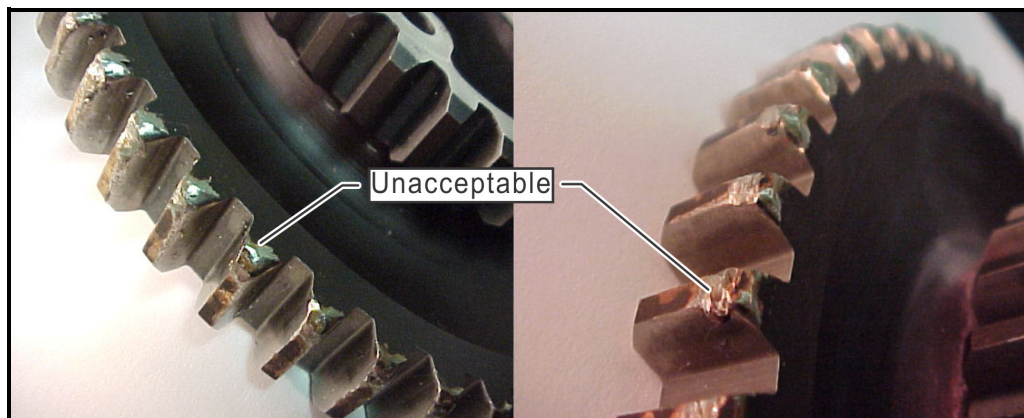

Figure 6. Unacceptable Wear Criteria
5. Examine the wear criteria on the larger of the two gears to determine either acceptable wear (Figure 5) or unacceptable wear (Figure 6) to the crankshaft cluster gear (see steps 5., a. and b.). After completely inspecting the visible gear tooth surfaces for wear, slowly rotate the engine crankshaft to examine the next section of the gear until all gear tooth surfaces have been completely inspected and the wear patterns have been reviewed against the following criteria:
- a. **Acceptable Wear** - Figure 5 depicts normal wear patterns for the crankshaft cluster gear. This wear pattern is normal and should not be confused with damaged gear teeth as shown in Figure 6.
- b. **Unacceptable Wear** - Figure 6 depicts unacceptable or abnormal wear of a crankshaft cluster gear.
- 4) If the crankshaft cluster gear is missing one or more complete teeth, please contact Continental Motors Customer Service Department directly at 1(800) 326-0089.